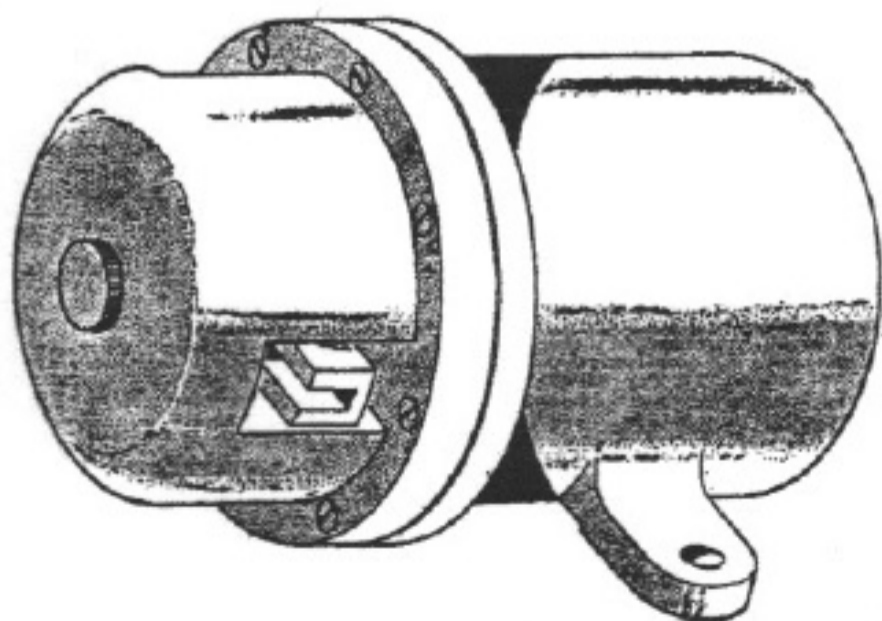
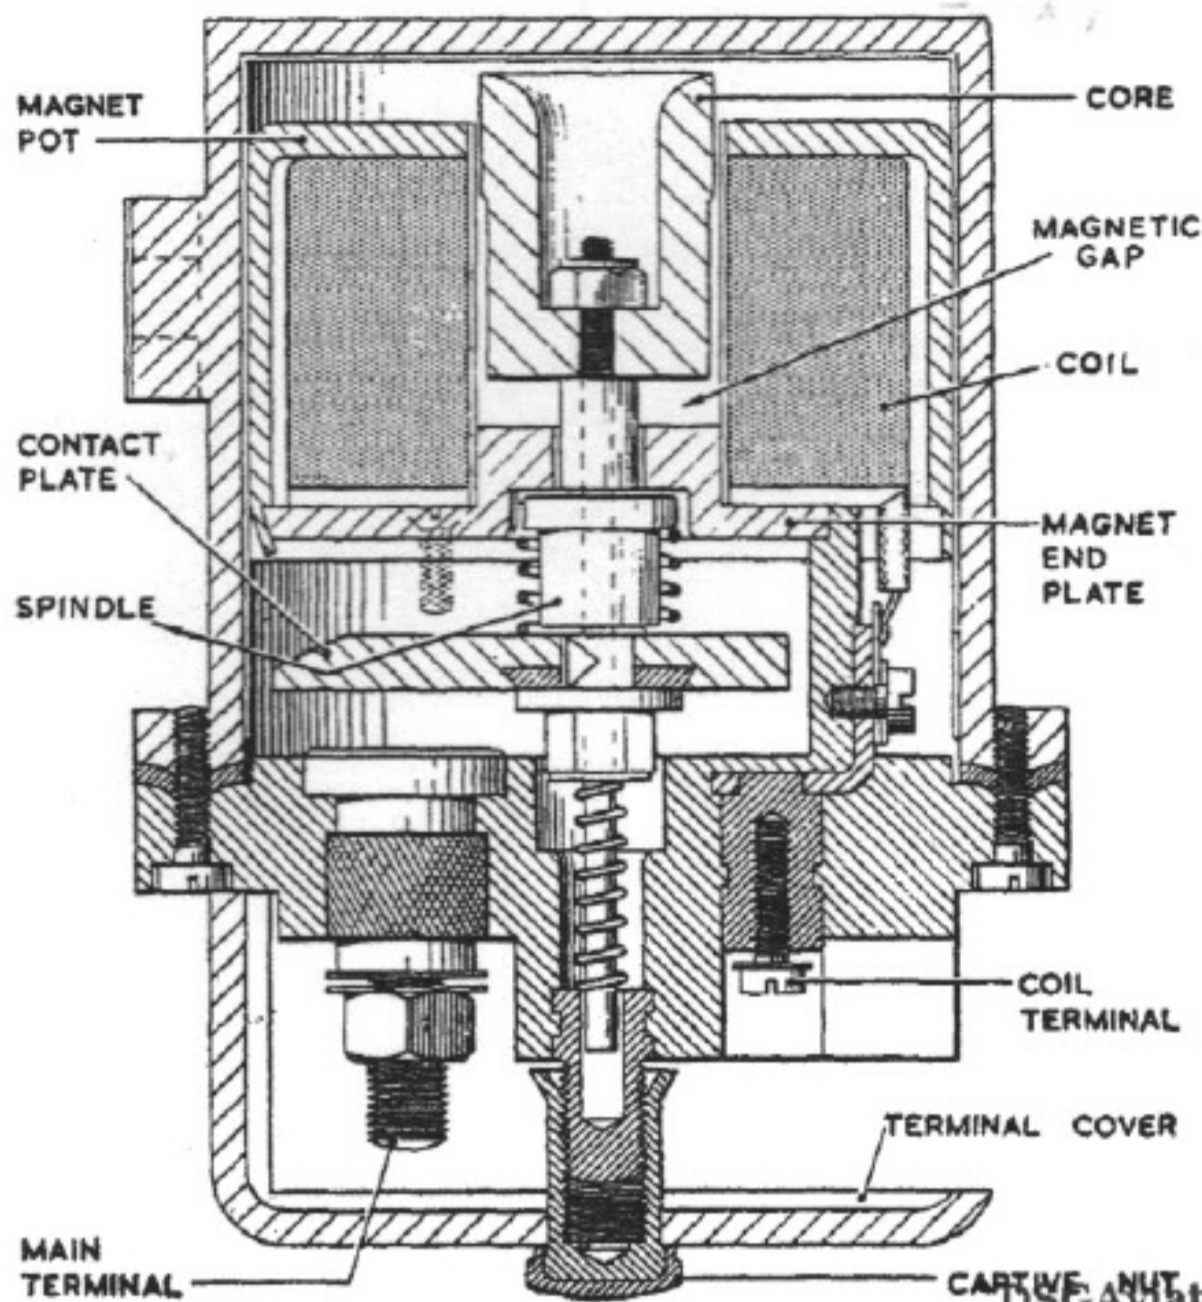

Fig. 1. Magnetic relay switch, Type T2
Fig. 2. Sectional view of switch
2. The relay switch (fig. 1) is a single-pole, double break switch, operated by an electromagnet. The closing of a control switch energizes the coil and attracts the core until it abuts the magnet end plate (fig. 2). The core is carried on a central spindle which moves downwards against spring tension. Also mounted on the spindle is a copper contact plate; when the relay is energized, this plate bridges the main terminals and completes the circuit to the load.